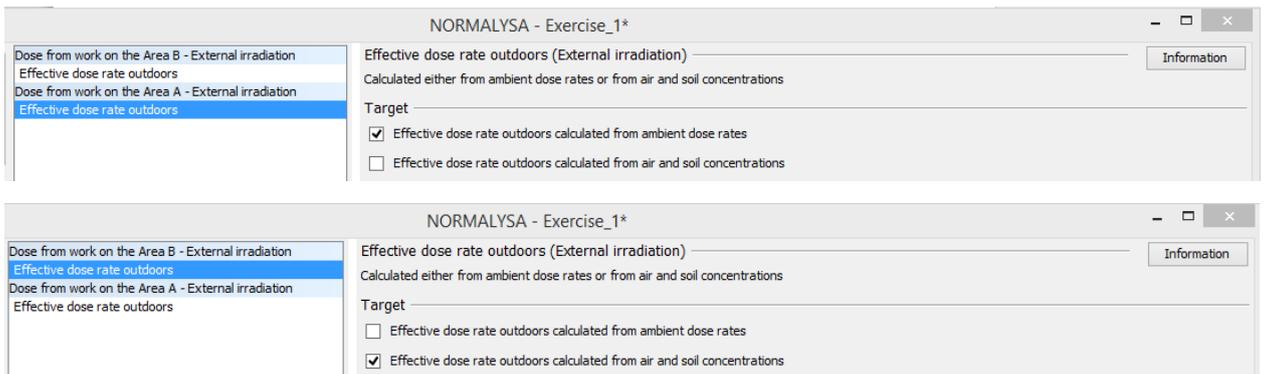

FIG 17. Specifying modelling options for calculating the ‘Effective dose rate outdoors’ parameter.
2. For the dose module corresponding to "Area A" (pre-selected in the left column of window) we choose 'Effective dose rate outdoors calculated from ambient dose rates' option (FIG 17).